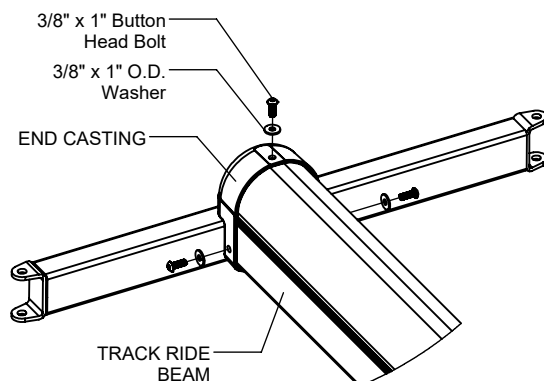

Figure 1.2
Using End Casting as a template, mark and drill (3) 25/64" holes into Track Ride Beam at each end. Attach Track Ride Beam to End Castings as shown in Figure 1.2. (See Note A)